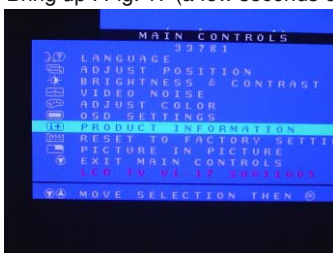

Fig. 16
Step 2 : [Push Menu " OK " & " AUTO " buttons at the same time and hold it ] + [Press power " ⏻ " to turn on monitor button and release it instantly], Bring up Fig. 16